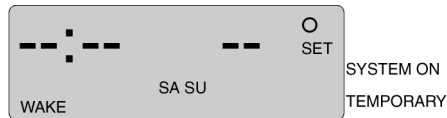

Fig. 23
g. Press **Set Schedule** until the weekend schedule is displayed (Fig. 23).